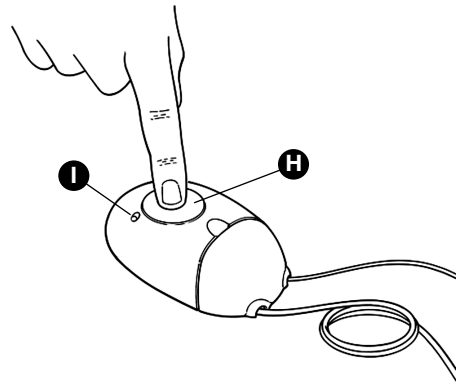

Fig. 3
1. Press Button **P1 [H]** in Fig.3 for at least 3s; when the **P1 LED [I]** shown in Fig.3 goes off, release the button.